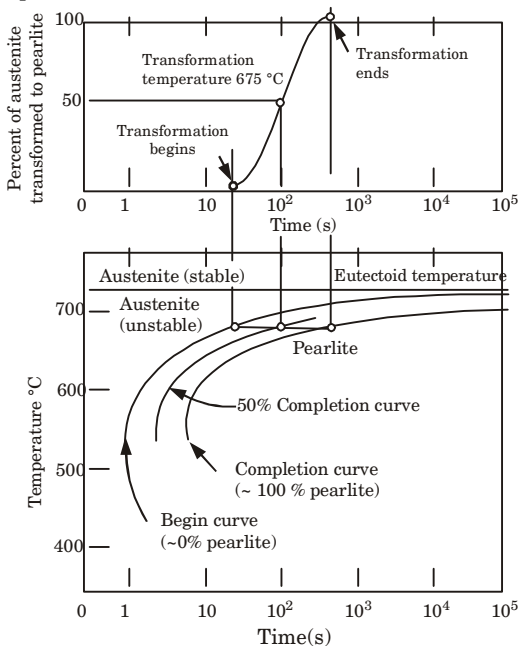

Fig. 4. TTT diagram.
5. In the (Fig. 4) transformation of austenite to pearlite is shown. The left most C-curve shows the starting of transformation of austenite into pearlite.